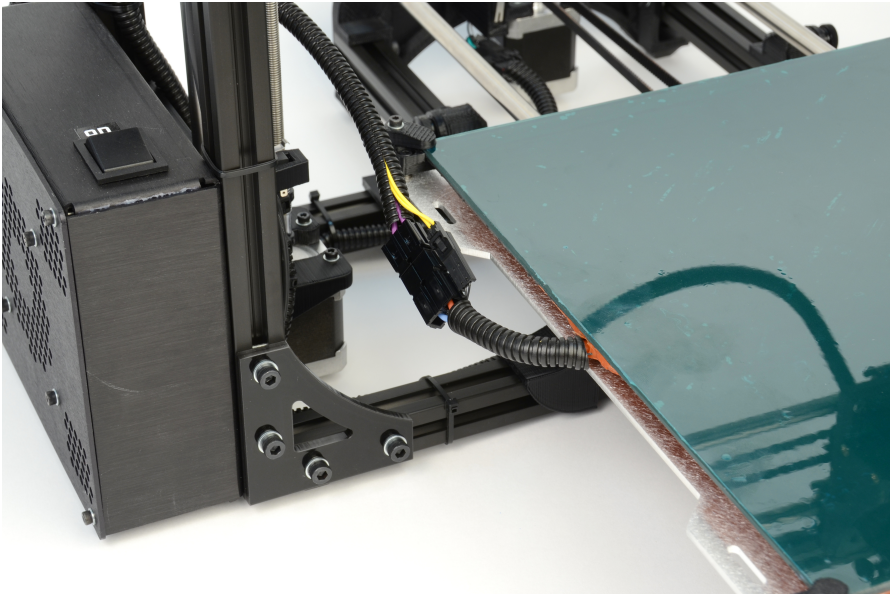

Figure 1.8: Connect the two connectors on the left of the print bed
6. Locate the two connectors to the left of the print bed. Connect the matching female and male large two pin heat bed connectors and the small two pin thermistor connectors, again making sure the connectors lock(Fig. 1.8, page 22).